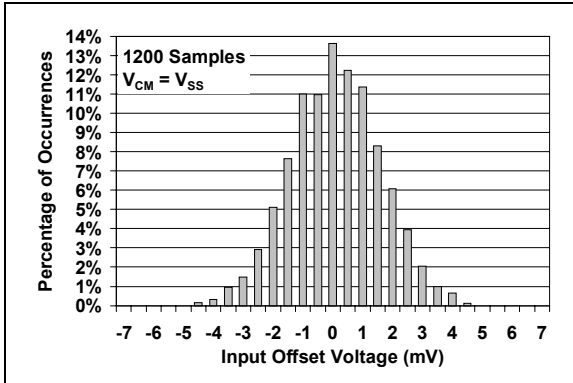

**FIGURE 1-3:** DC Test circuit for the open-drain output comparators.
**Electrical Specifications:** Unless otherwise indicated,  $V_{DD} = +1.6V$  to  $+5.5V$ ,  $V_{SS} = GND$ ,  $T_A = 25^{\circ}C$ ,  $V_{IN+} = V_{DD}/2$ ,  $V_{IN-} = V_{SS}$ ,  $R_{PU} = 2.74$  k $\Omega$  to  $V_{PU} = V_{DD}$ . Refer to Figure 1-3.
**Electrical Specifications:** Unless otherwise indicated,  $V_{DD} = +1.6V$  to  $+5.5V$ ,  $V_{SS} = GND$ ,  $T_A = 25^\circ C$ ,  $V_{IN+} = V_{DD}/2$ , Step = 200 mV, Overdrive = 100 mV,  $R_{PU} = 2.74\ k\Omega$  to  $V_{PU} = V_{DD}$ , and  $C_L = 36\ pF$ . Refer to Figure 1-2 and Figure 1-3.
**Electrical Specifications:** Unless otherwise indicated,  $V_{DD} = +1.6V$  to  $+5.5V$ ,  $V_{SS} = GND$ ,  $T_A = 25^\circ C$ ,  $V_{IN+} = V_{DD}/2$ ,  $V_{IN-} = V_{SS}$ ,  $R_{PU} = 2.74\ k\Omega$  to  $V_{PU} = V_{DD}$ , and  $C_L = 36\ pF$ . Refer to Figure 1-3.